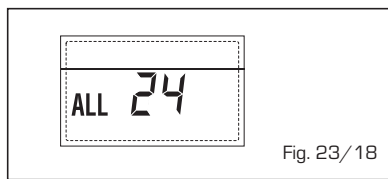

Fig. 23/18
**- COMPATIBILITY INPUT (S3) ERROR ONLY FOR SYSTEM 7 "ALL 28" (fig. 23/22)**